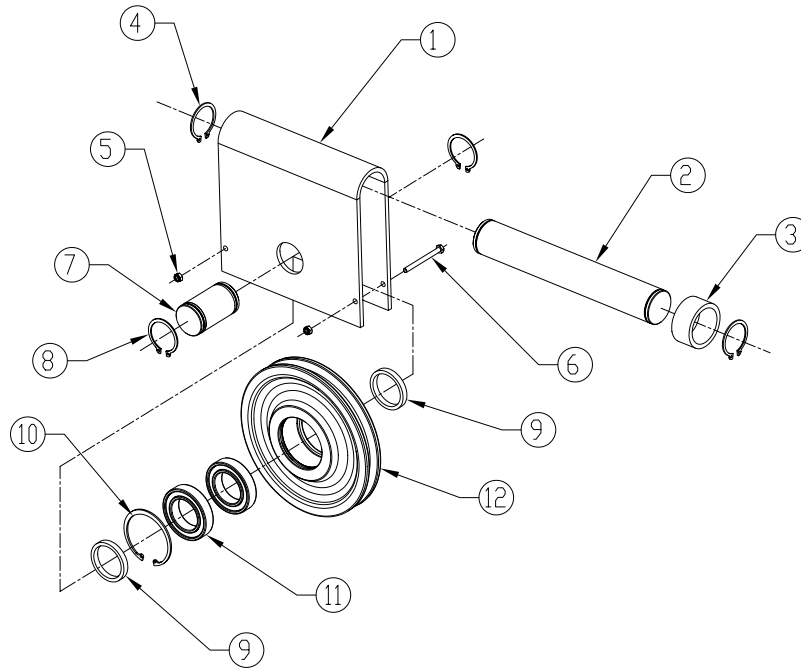

Figure 9-5a. Upper Block Assembly
**"B" Frame: Upper Block Components for Figure 9-5a.**
**"C" Frame: Upper Block Components for Figure 9-5a.**
"D" Frame: Upper Block Components for Figure 9-5a.